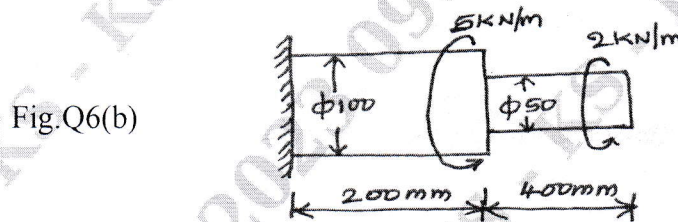

Fig.Q6(b)
b. A solid stepped bar of circular cross – section as shown in Fig. Q6(b), subjected to a torque of 2kN/m at its free end and a torque of 5kN/m at its change in cross – section. Determine the angle of twist and shear stress in the bar. Take  $E = 2 \times 10^5 \text{ N/mm}^2$  and  $G = 7 \times 10^4 \text{ N/mm}^2$ . (12 Marks)